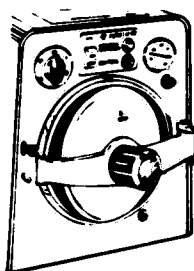

Figure 2B. Partially Open Door.
a. **To open** — Unlock door by turning door-knob counterclockwise until it stops. While firmly holding doorknob pull door forward and to the right. Then pull door and hinge forward and to the left so that left edge of door clears nose of shell before right edge (Fig. 2B).